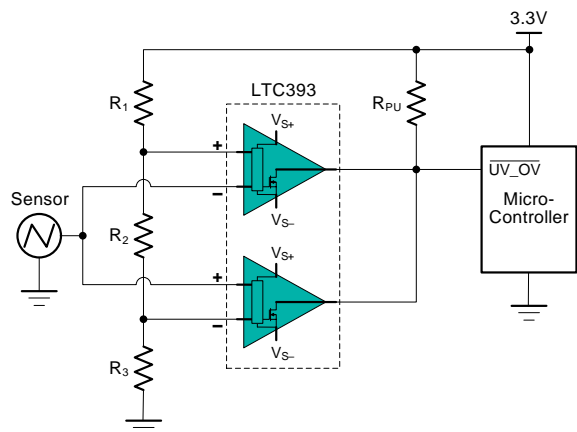

Figure 6. Window Comparator
Window comparators are commonly used to detect undervoltage (UV) and overvoltage (OV) conditions. Figure 6 shows a simple window comparator circuit.
Configure the circuit as shown in Figure 6. Connect V_{S+} to a 3.3-V power supply and V_{S-} to ground. Make R_1 , R_2 and R_3 each 10-M Ω resistors. These three resistors are used to create the positive and negative thresholds for the window comparator (V_{TH+} and V_{TH-}). With each resistor being equal, V_{TH+} is 2.2V and V_{TH-}